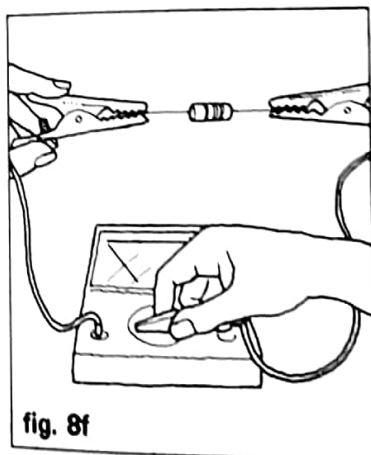

fig. 8f
In fig. 8f, the multimeter is being used to measure the value of a resistor. The two leads are being connected to the resistor. Two small crocodile clips are being used to make a good connection between the meter and the resistor. The function selector switch is being turned to the resistance range. The needle will indicate the value of the resistor on the ohm scale.
1. Fig. 8f – the value of a resistor *(measure)* .....
2. Fig. 8f – crocodile clips *(use)* .....
3. Fig. 8f – the function selector switch *(turn)* ..... to the resistance range